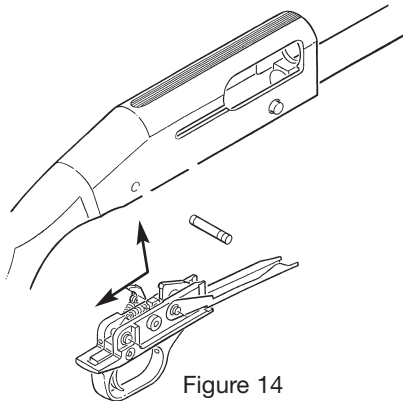

Figure 14
1. Insert the trigger housing assembly by pressing the bolt release button while pushing the trigger housing assembly up and rearward (Figure 14).